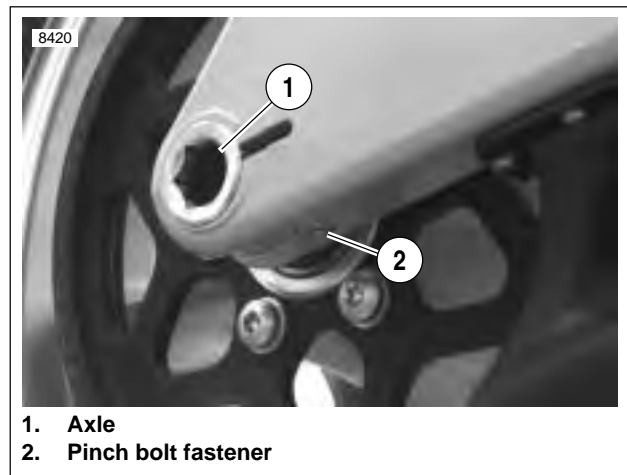

Figure 6-92. Rear Wheel Mounting, Right Side
13. See Figure 6-92. Tighten rear axle (1) to 48-52 ft-lbs (65-70 Nm).
14. Tighten rear axle pinch fastener (2) to 40-45 ft-lbs (54-61 Nm).